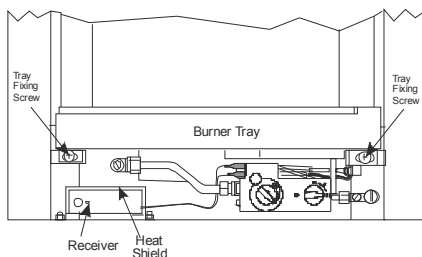

Figure 67
4. Position the receiver under the heat shield as shown in **Figure 67**.
2. Fit the connectors on the cable to the drive motor ensuring correct polarity. The cable connectors must be matched to the appropriately sized spade connector. Position the battery pack inside the heat shield (see **Figure 67**).